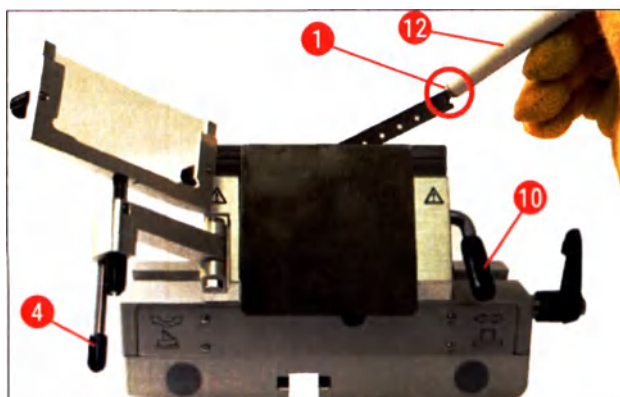

Fig. 36
4. Another option for removing the blade is to use the brush with magnet (→ Fig. 36-12). To do so, fold the clamping lever (→ Fig. 36-10) downward counterclockwise (→ "Fig. 36"). Fold the anti-roll guide system (→ Fig. 36-4) to the left. Guide the brush with magnet (→ Fig. 36-1) to the blade and lift it upwards and out.